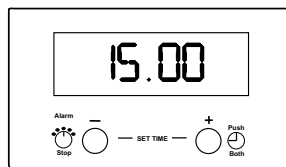

Fig. 10.
Release button (1). After a few seconds the time of day will show in the display, see Fig. 10.